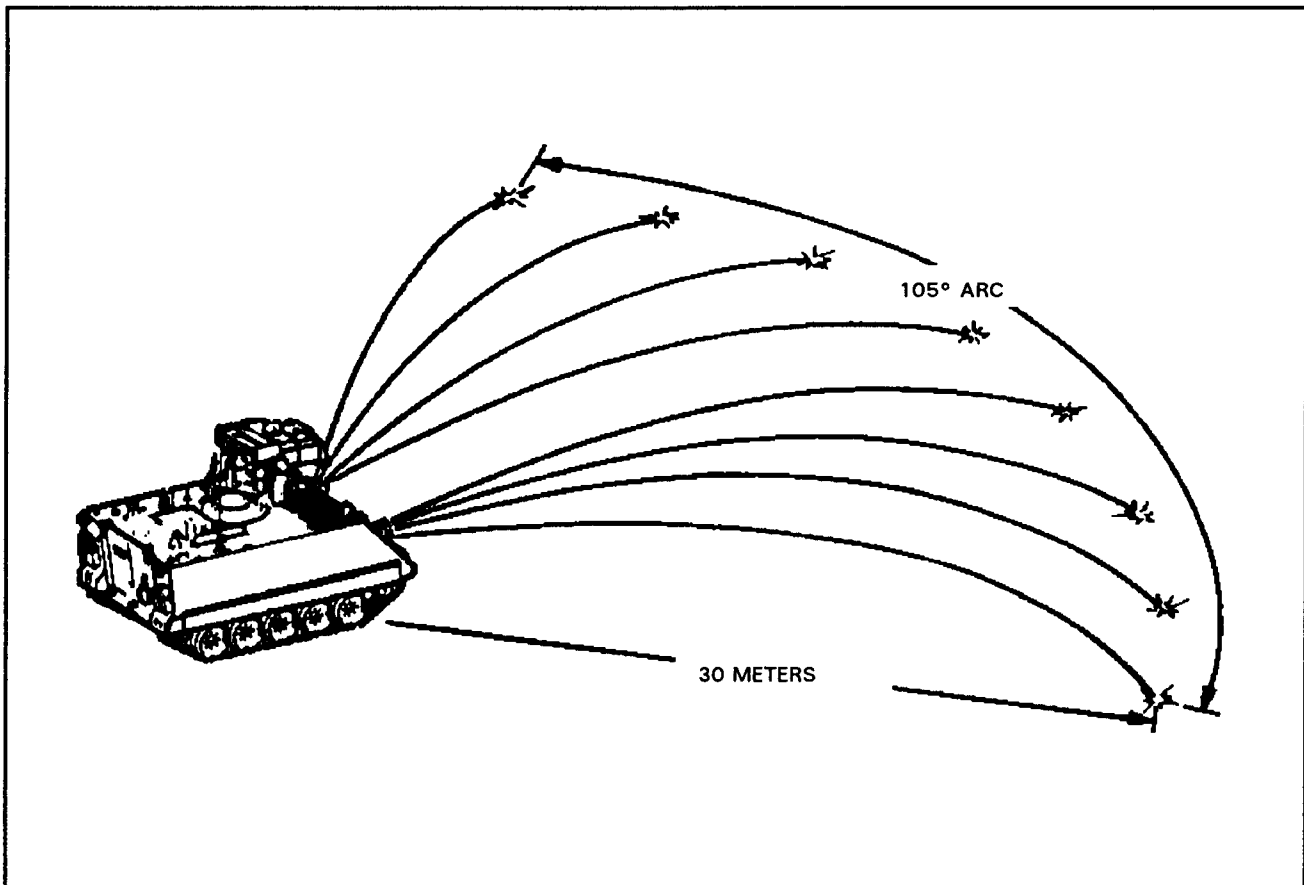

Figure 4-16. Pattern of detonation.
**b. Fire the Smoke Grenades.** Eight grenades detonate in about a 105-degree arc 30 meters from the vehicle. The smoke cloud is about 9 meters high and lasts about one to three minutes, depending on wind (Figure 4-16). The front of the vehicle is facing the area where the smoke is to conceal the movement of the vehicle. The gunner places the smoke launcher ARM-OFF switch to ARM. He presses the FIRE button when ready to fire.